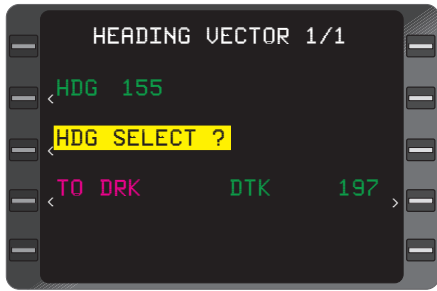

Figure 3-64
- 8. **ENT** Key - DEPRESS twice to engage Heading Select mode. (Figure 3-64)